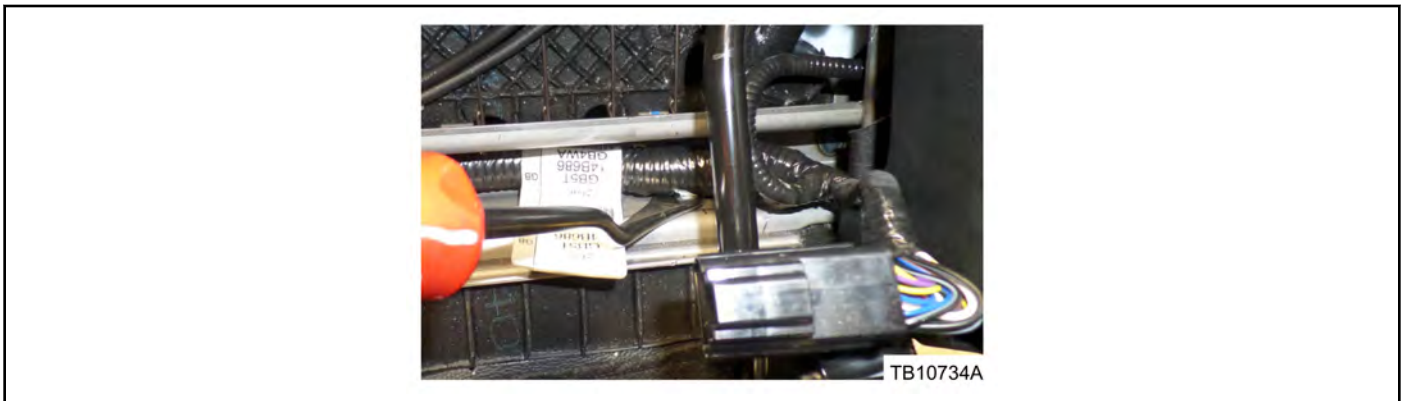

Figure 1 - Article 16-0001
5. On both sides, follow the seat harness and locate the next harness retaining pushpin and remove it from its mounting position to allow for more harness movement. Cut and discard the protruding end of the pushpin. (Figure 1)